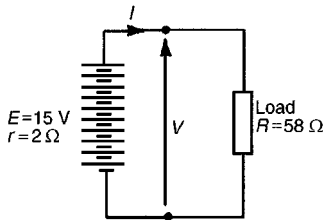

Figure 4.4
- (a) For ten cells, battery e.m.f., $E = 10 \times 1.5 = 15 \text{ V}$, and the total internal resistance, $r = 10 \times 0.2 = 2 \text{ } \Omega$. When connected to a 58 Ω load the circuit is as shown in Fig. 4.4